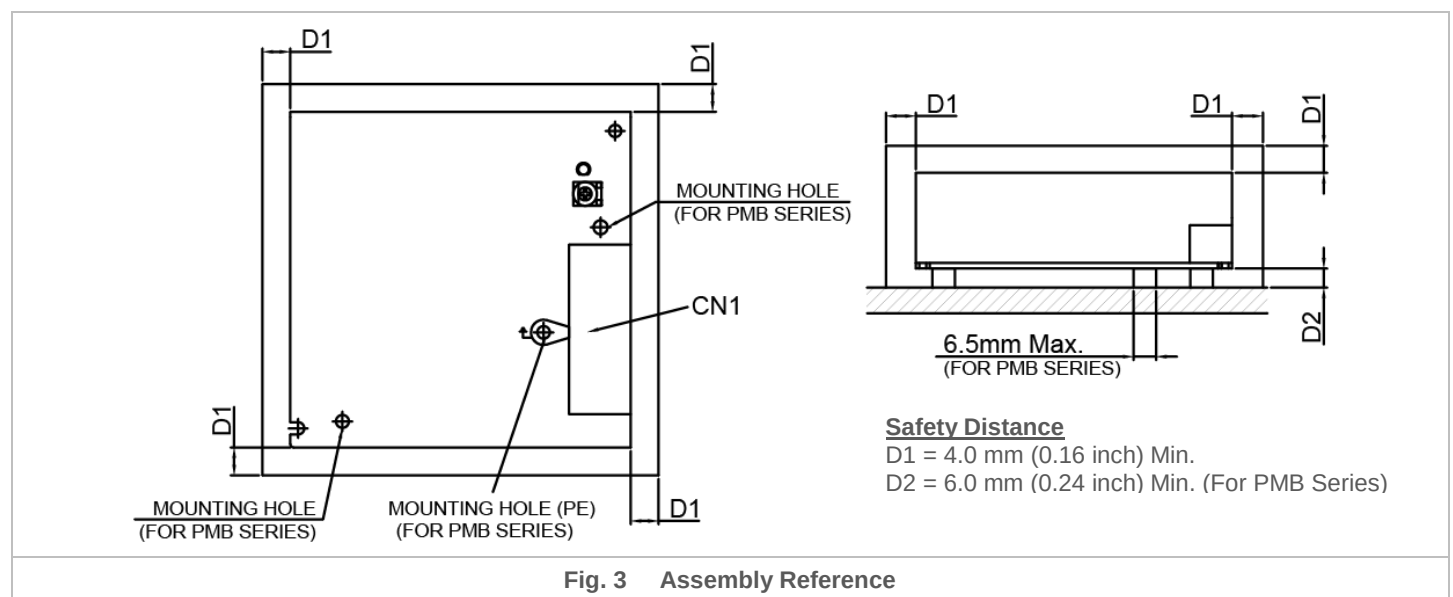

Fig. 3 Assembly Reference
- **For PMB Series: (Refer to Fig. 3):** The mounting holes on any mounting accessories for the device should be kept at a diameter of $< 6.5\text{mm}$ (0.26 inch). This is to ensure sufficient safety distance between the mounting screw and the components around the mounting holes on the PCBA. Therefore, the diameter of the mounting screw should be kept at $< 6.5\text{mm}$ (0.26 inch).